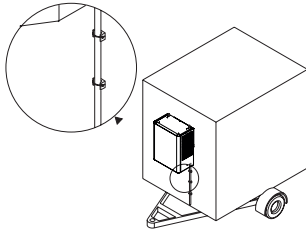

Fig. 1.2.4.b
- A) FASTEN the supports for the bails on the cold room wall with self-tapping screws (fig 1.2.4.a).
C) FASTEN the coiled sheath to the supports with bails (Fig.1.2.4.b).
E) FASTEN the drain protection sheet metal with screws to the cold room wall (Fig.1.2.4.c).
Fig. 1.2.4 a